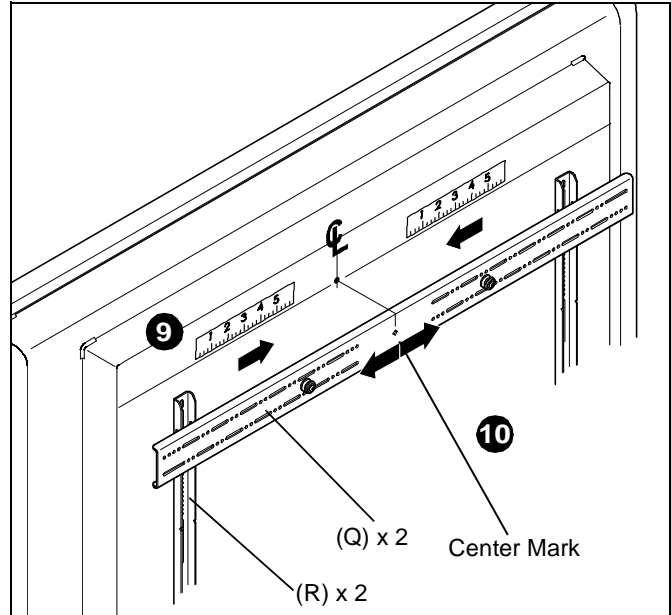
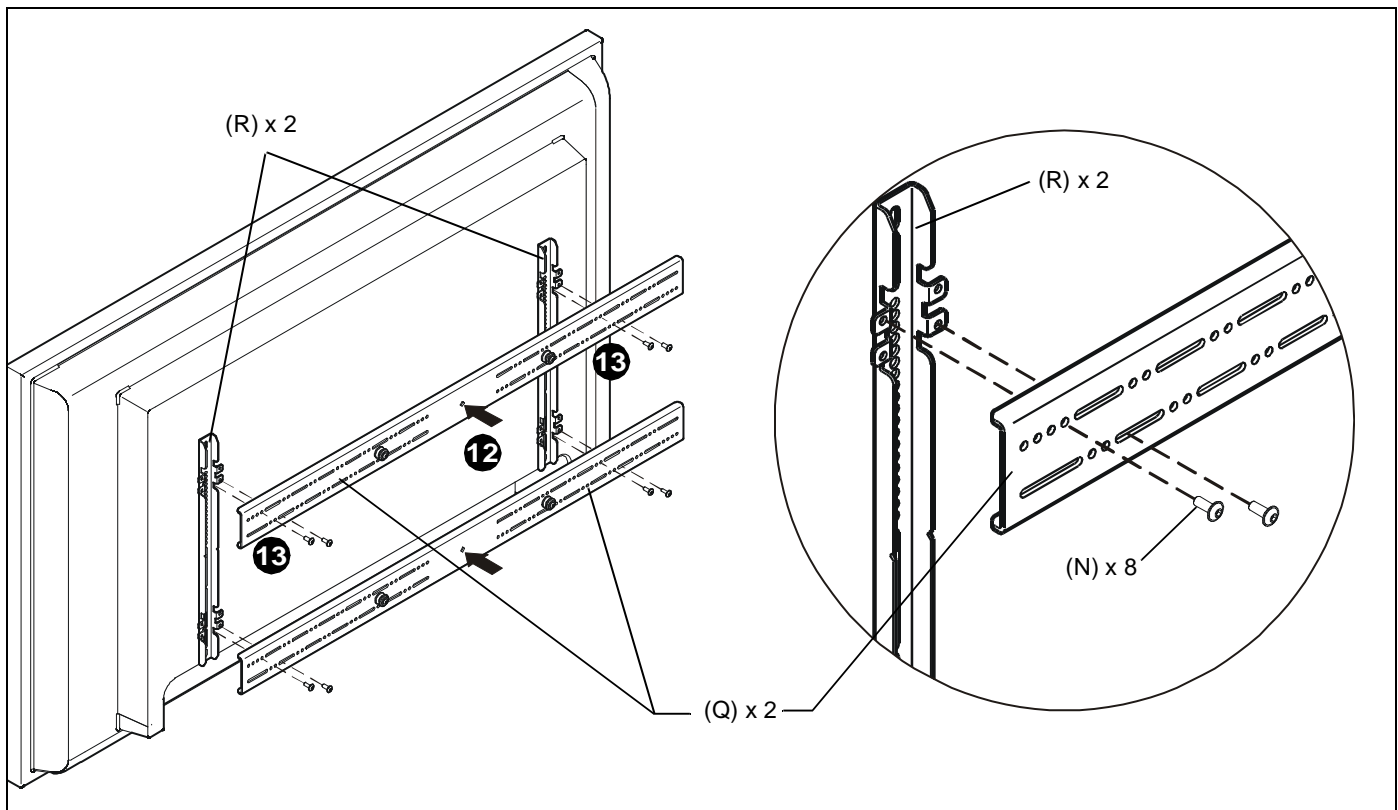

Figure 4
Figure 5
9. Determine and mark the horizontal center position between the Left and Right *TOP* mounting holes in display. (See Figure 4)
10. Determine and mark the horizontal center position between the Left and Right *BOTTOM* mounting holes in display. (See Figure 4)
11. Orient upper horizontal mounting bracket (Q) so that flanges are facing towards display and resting in recessed area of left and right vertical mounting brackets (R). (See Figure 4)
12. Adjust Upper horizontal mounting bracket (Q) position until center diamond in horizontal mounting bracket (R) aligns with mark made in Step 9, and mounting holes and slots in horizontal mounting bracket (Q) are aligned with threaded holes in mounting tabs of left and right vertical mounting brackets (R). (See Figure 4) and (See Figure 5)
13. Use 1/8" hex key (P) to secure upper horizontal mounting bracket (Q) to left and right vertical mounting brackets (R) using four button head flanged screws (N). (See Figure 5)
14. Repeat Steps 10 through 13 for lower horizontal mounting bracket (Q).
**IMPORTANT !** : The orientation of, and mounting holes used, when installing the lower horizontal mounting bracket must be the same as the upper horizontal mounting bracket. Vertically align upper and lower brackets by aligning holes or end of slots. (See Figure 5)
**IMPORTANT !** : Whenever possible install mounting screws diagonally as shown in detail in Figure 4 below.